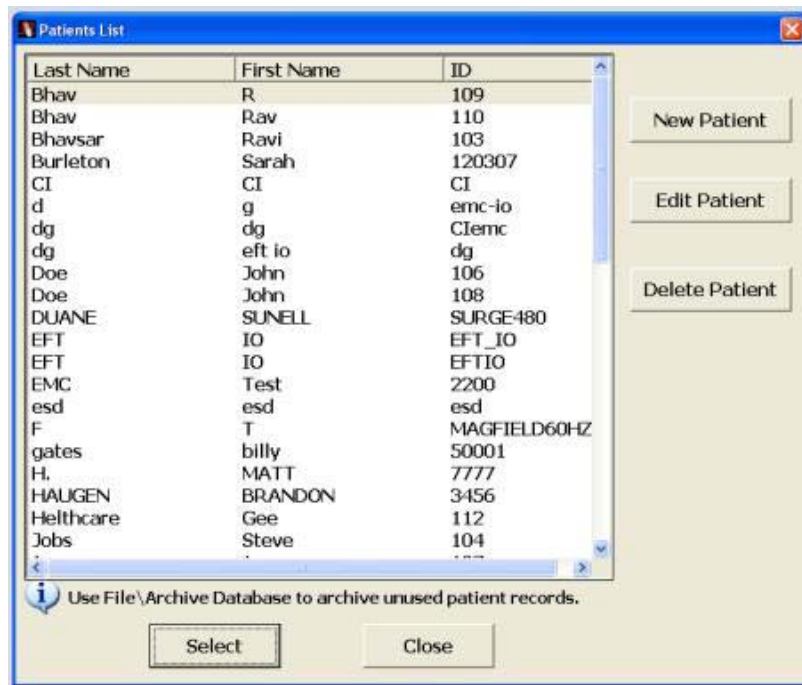

Figure 1-8 PATIENT LIST WINDOW
12.) On the Patient List Window select: New Patient (Refer to Figure 1-8)